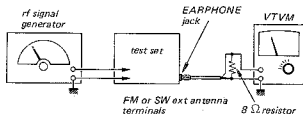

Fig. 3-7. FM/SW1 ~ 5 frequency coverage and tracking adjustment setup
- Setup: FM See Fig. 3-7.
- SW1 ~ 5 See Fig. 3-7.